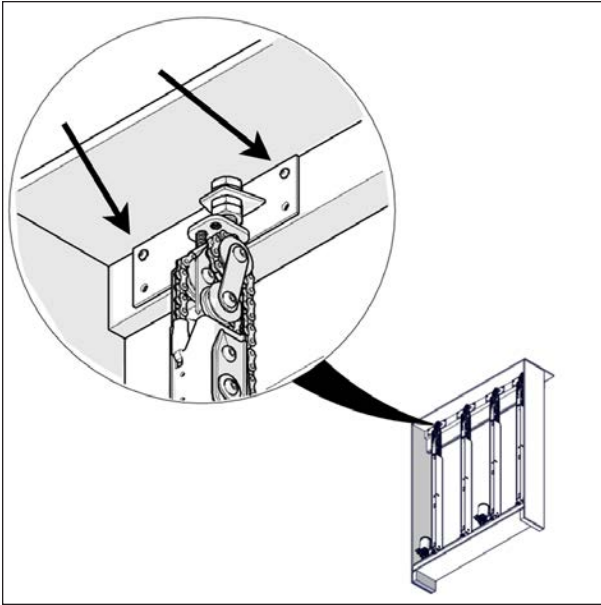

FIGURE 24: JACK TOP SCREW REMOVAL
13. Remove the jack assembly top Robertson #8 x 1.5" screws. Once completed, keep the jack in a safe location on the ground, see Figure 24.